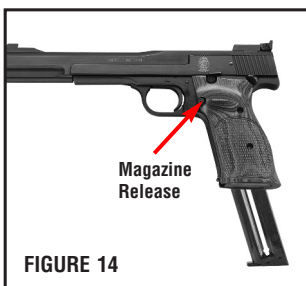

FIGURE 14
- Point the muzzle in a safe direction. Make sure your finger is off the trigger and out of the trigger guard. Verify that the manual safety is in the safe (up) position. Depress the magazine release, and remove the magazine (FIGURE 14).